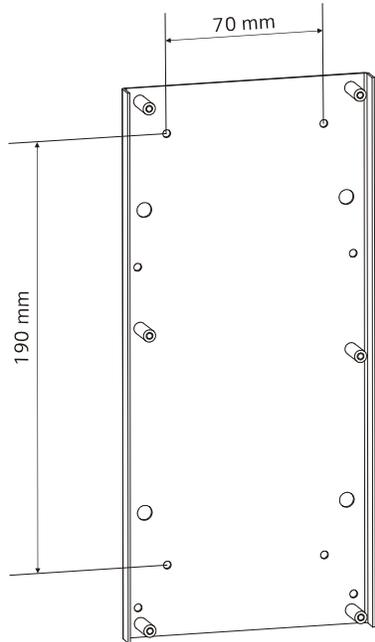
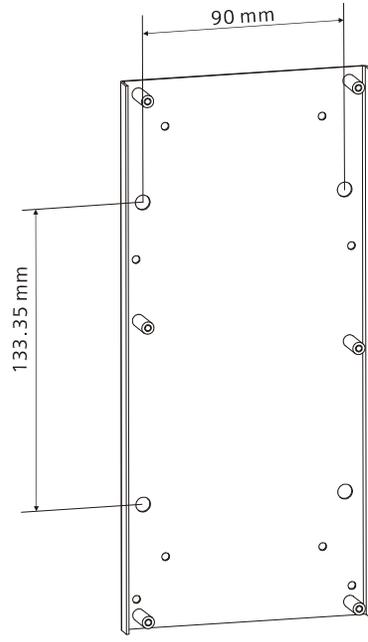

Fig.2 Installation size for wall-mounted
Fig.3 Installation size for rack-mounted
2. Use four screws to fix the metal board of FTM1811 in controller/electric cabinet or on the wall (refer to Fig.2/Fig.3).